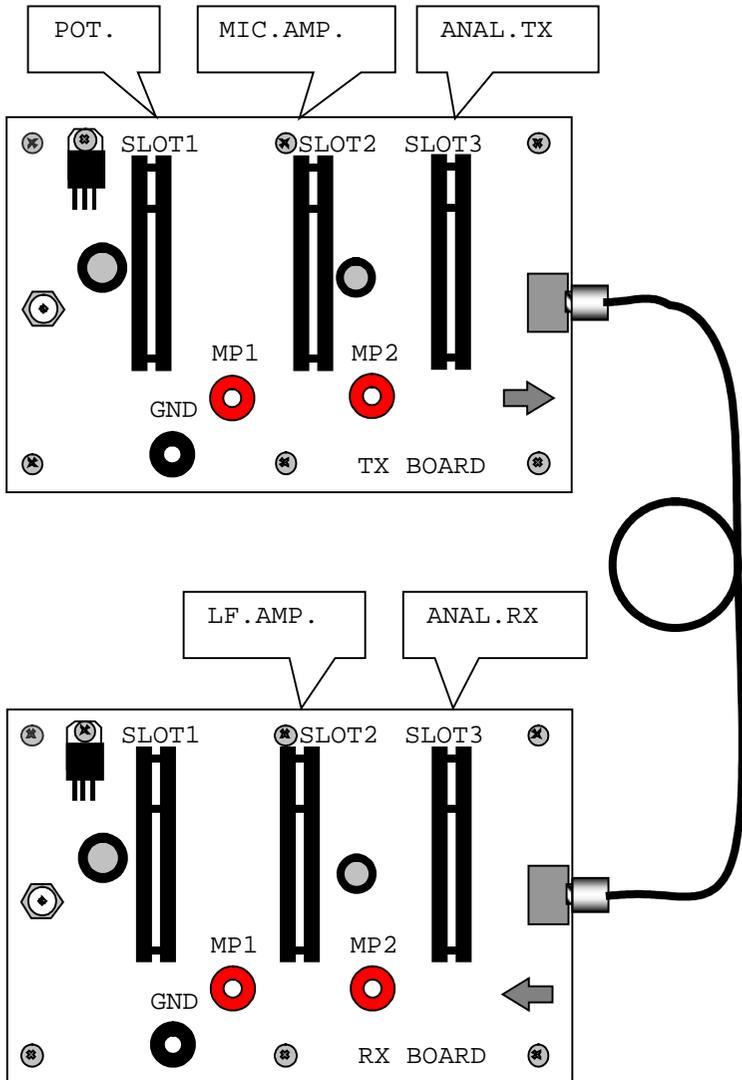

Figure 14: A set-up diagram of a device for sound transmission.
1. Insert the analogue transmitter into Slot 3 and the potentiometer into Slot 2 of the main transmitter panel (Figure 14).